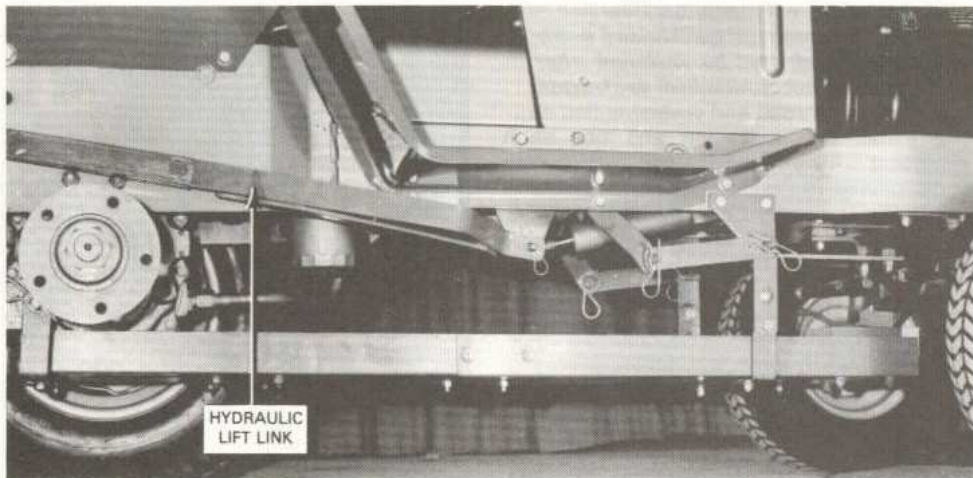

FIG. 14
6. Attach Tiller lift link to hydraulic lift arm and secure with hairpin, as shown in Figs. 14 and 15.